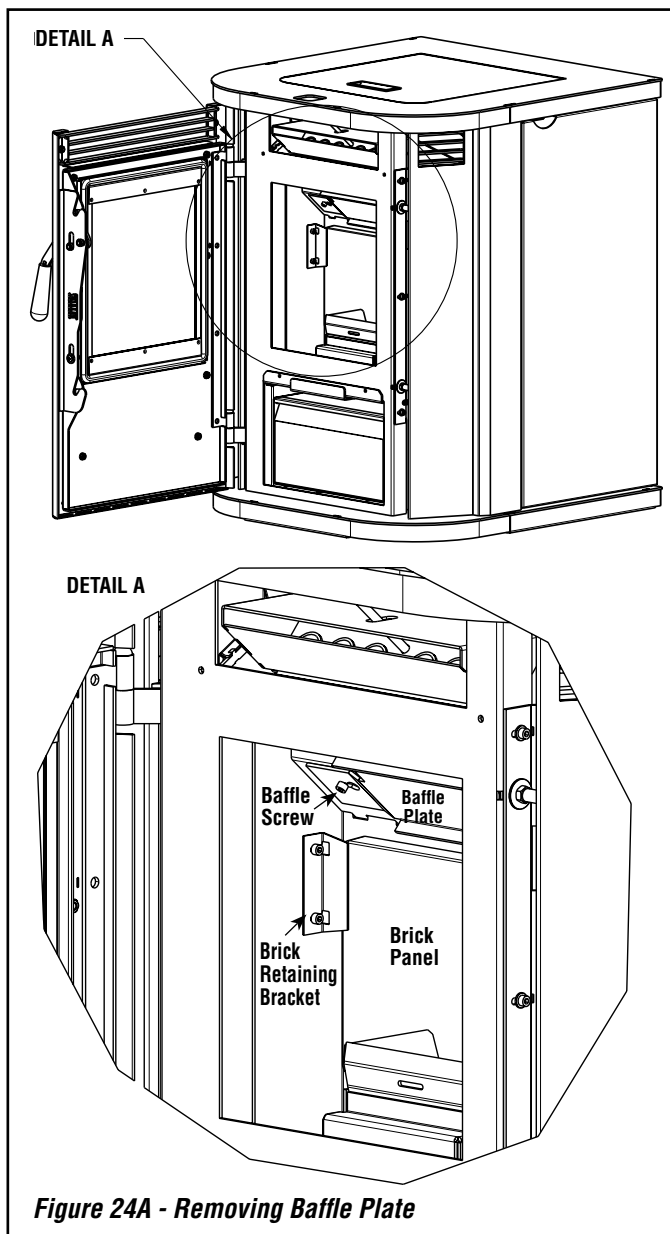

Figure 24A - Removing Baffle Plate
Baffle Removal - The baffle plate contains two keyhole slots (see **Figures 24A and 24B**), which allows the two retaining screws to remain in place while removing the baffle plate. To remove baffle, loosen the two screws holding the baffle in place (do not fully remove). Slide the baffle plate to the left until the screw heads clear the open end of the key hole slots. Remove the baffle plate diagonally through door opening. The tube scraper rod can now be pulled in a more horizontal manner, which allows the scraper to move more freely.
- 2) Remove Firebrick Panel (see **Figure 24A**):